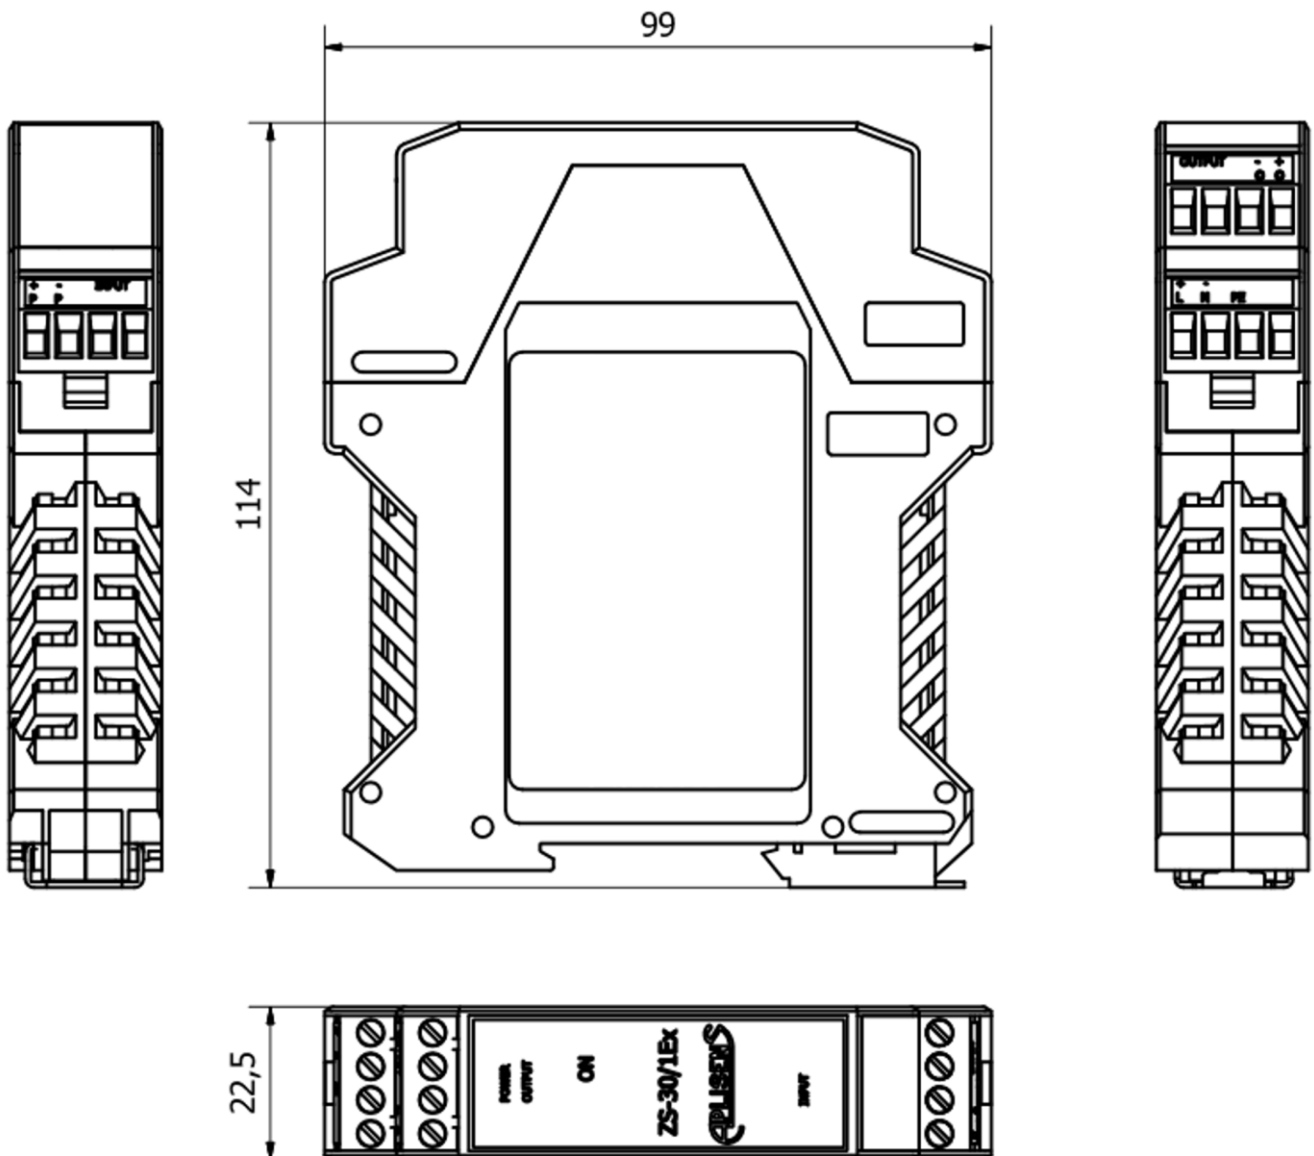

FIG. 2 ZS-30/1Ex power supply-isolator in a rail-mounted enclosure
10.1. The ZS–30/1Ex power supply-isolator should be installed in a vertical position, in accordance with the orientation of the front nameplate. The ventilation holes should be positioned at the top and bottom of the unit. The installation method is shown in Fig. 2, section 15.